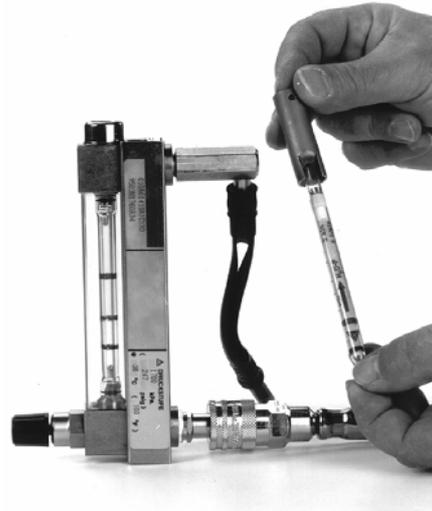

Fig. 3: Breaking off detector tube tips
- Break off the detector tube tips at air exit side (see fig. 3)